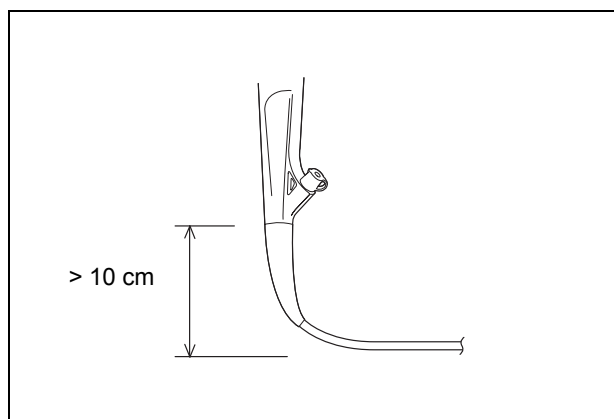

Figure 4.2
- Do not allow the insertion section to be bent within a distance of 10 cm or less from the junction of the boot. Insertion section damage can occur (see Figure 4.2).